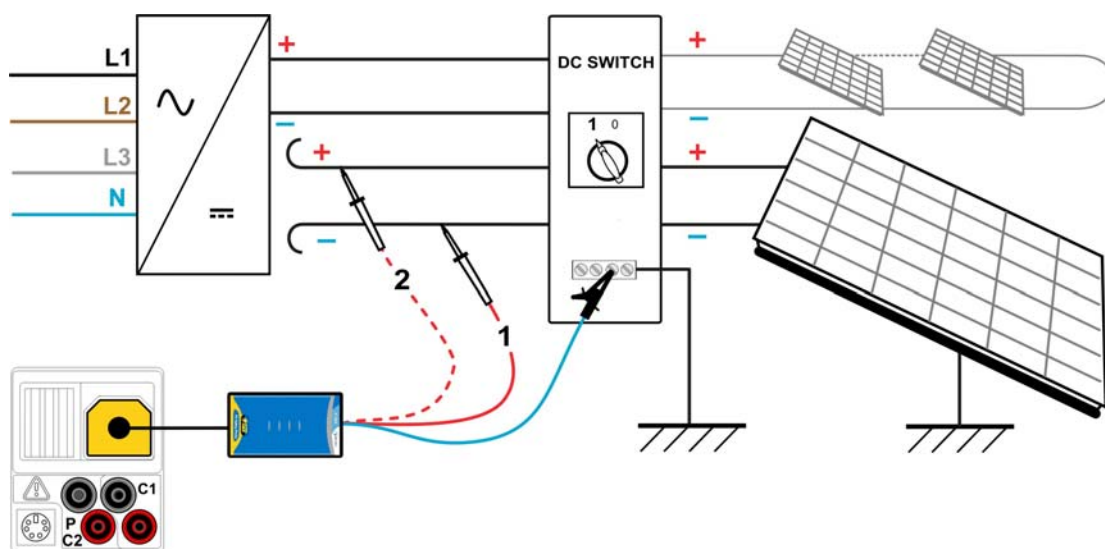

Figure 6.2: Connections for insulation resistance measurement on PV systems
- ❑ **Connect** PV safety probe to the instrument (see figure 6.2)
- ❑ **Connect** accessories to the PV system (see figures 6.2).
- ❑ **Reconnect** DC+ lead (see figures 6.2).